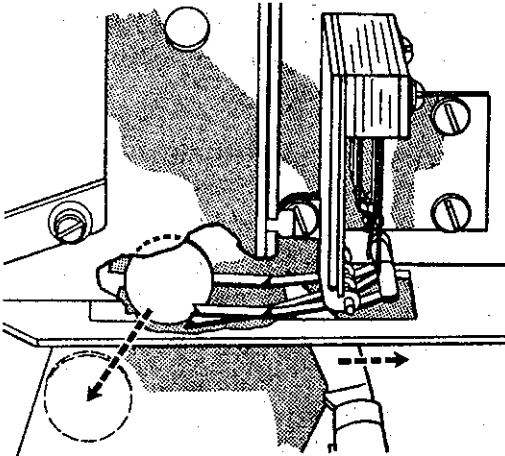

FIGURE 13. COIN TRAVEL
2. Move the knife blade slowly to the right to release the coin. The contacts must come together and the back blade should move approximately $1/64"$ just before the coin drops through of its own weight. (See Figure 13).